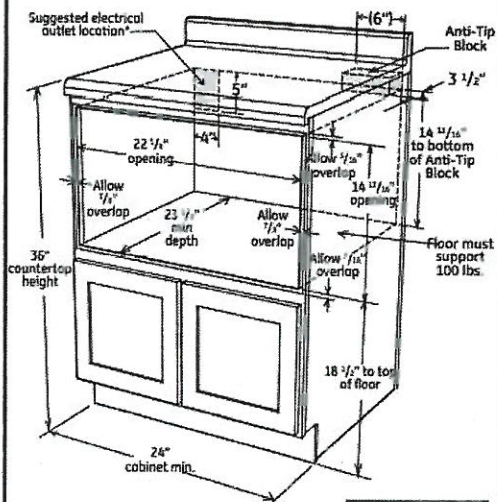

Figure 1
- Dimensions that are shown in Figure 1 (for 24") must be used. Given dimensions provide minimum clearance. Locate electrical outlet in the shaded area in the upper left-hand corner of the cutout. See Figure 4.
Figures 1 and 2 contain many drawer microwave measurements for reference when planning the drawer location.